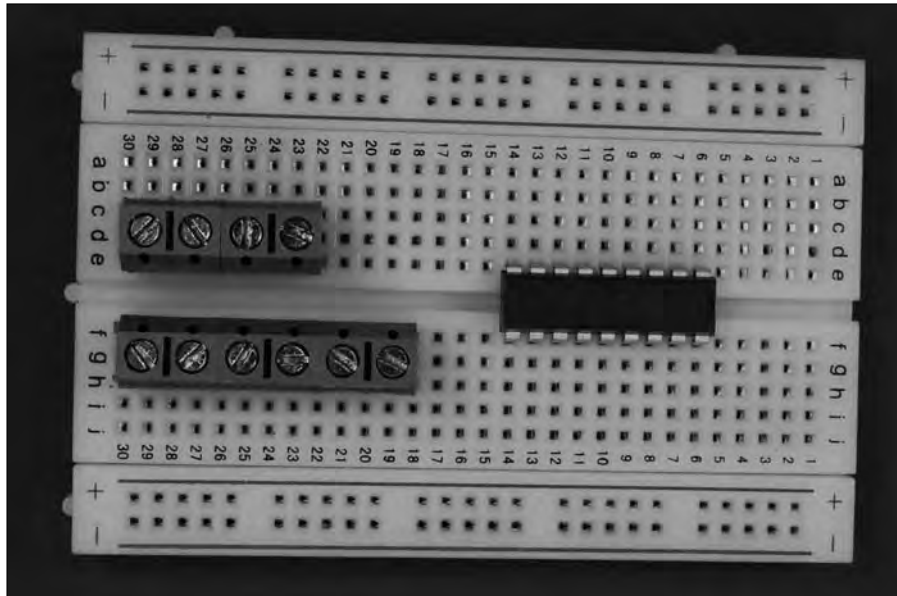

Figure 13-7: Place the IC and terminal blocks on the breadboard.
- 1. Place HT12E (IC1) and five terminal blocks on the breadboard, as shown in Figure 13-7.**